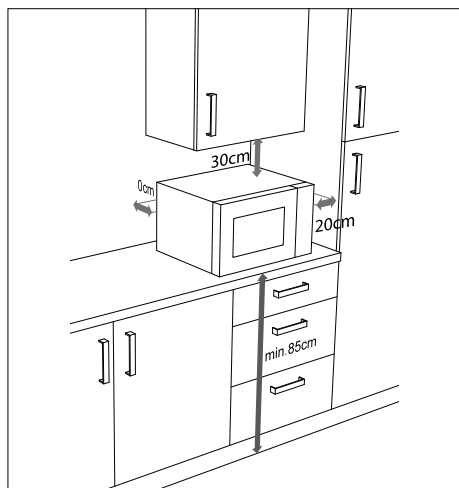

Fig. 3 – Appliance clearance
- ▶ To ensure adequate ventilation, the clearances specified in “**Fig. 3 – Appliance clearance**” must be maintained. The spacer at the back of the appliance must touch the wall. It ensures that the correct clearance is maintained when positioning the microwave.